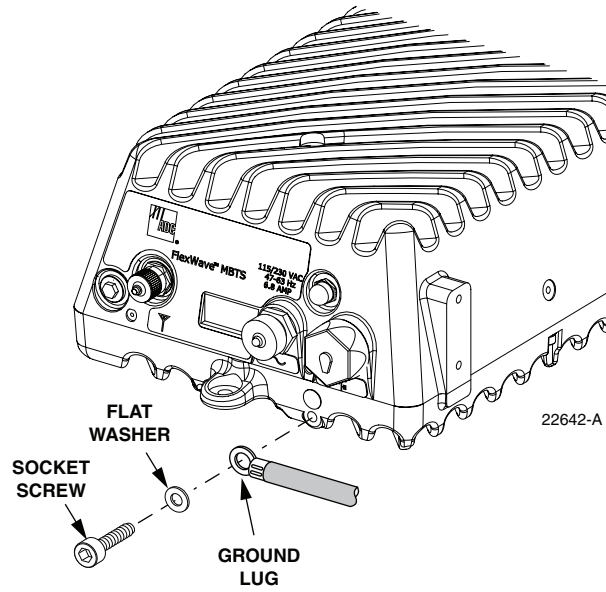

Figure 10. Connecting Grounding Cable to Enclosure
2. Locate the grounding point provided on the underside of the enclosure as shown in Figure 10.